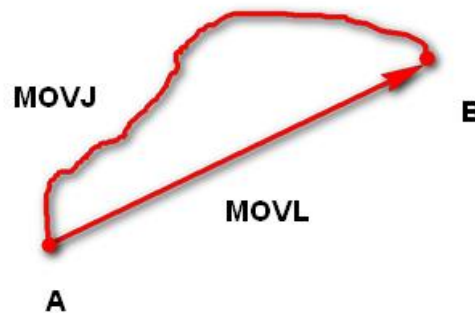

Figure 3.6 MOVJ/MOVL mode
- **MOVJ**: Joint movement. From point A to point B, each joint will run from initial angle to its target angle, regardless of the trajectory, as shown in Figure 3.6.
- **MOVJ**: Rectilinear movement. The joints will perform a straight line trajectory from point A to point B, as shown in Figure 3.6.